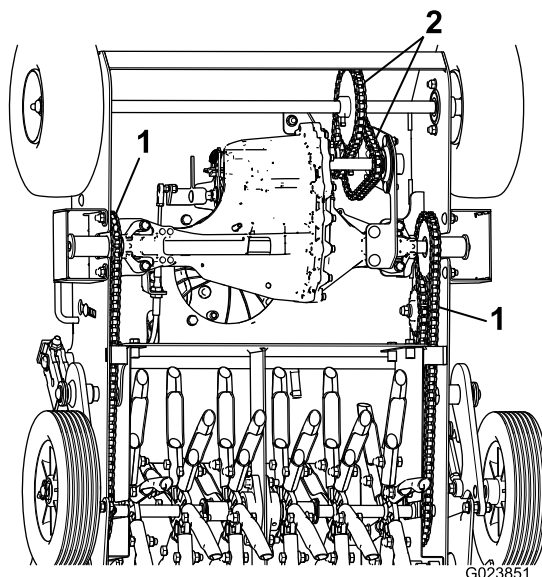

Figure 19
3. Rotate the front wheels and apply oil or chain lubricant onto the links of the lower spans of the front drive chains (Figure 19).
2. Raise the front of the machine to gain access to the chains (Figure 19) and block it in place.
4. Check the front drive chains (Figure 19) for wear, damage, and proper tension.
5. Rotate tine shafts and apply oil or chain lubricant onto all the links of the lower spans of the tine-drive chains (Figure 19).